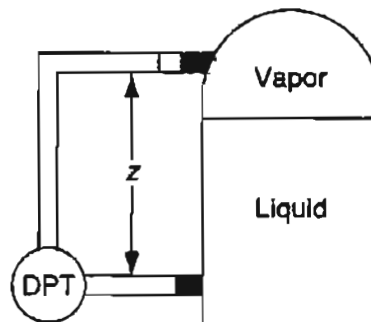

Figure P5.27
- 9*5.27 A differential pressure transmitter (DPT) can be used to sense the liquid level in a tank. See Figure P5.27.